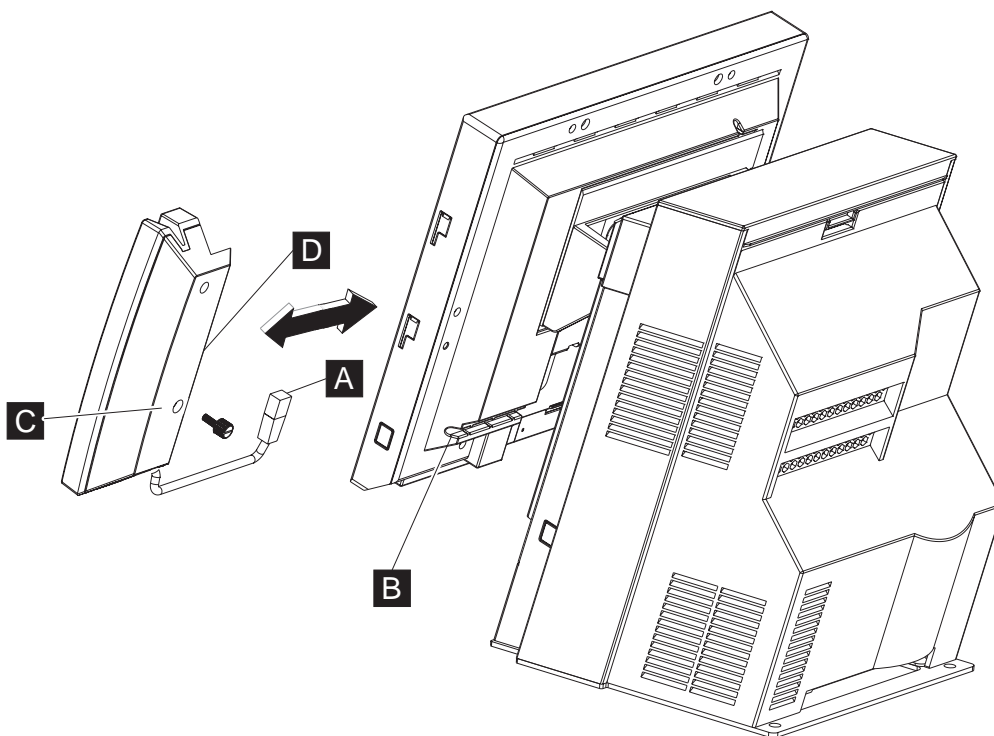

Figure 22. Installing magnetic stripe reader (MSR)
2. For three-track MSR only, set the slide switch that is located on the MSR to the correct setting for either RS-232 or keyboard interface. See Figure 22.
4. Install the MSR (**D** in Figure 22) by aligning it with the key holes on the tablet and then sliding the MSR down. (Be careful that you do not pinch the cable, **A**.)
6. Install the thumbscrew **C** provided with the MSR, as shown in Figure 22. Use care not to overtighten the screw.